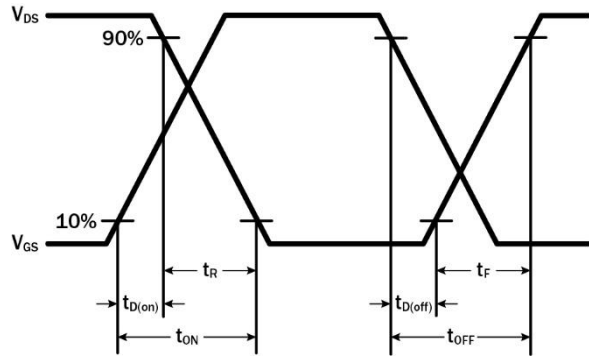

Figure 15. Switching Time Waveform
**Simplified Half-bridge Schematic ( See also on Figure 15 )**